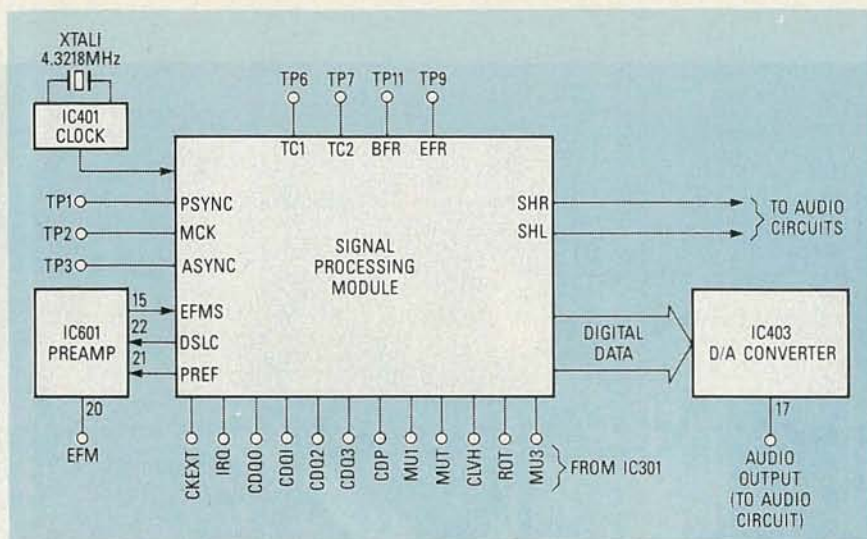

FIG. 32—A FAULTY signal-processing module can cause a variety of audio and motor-control problems.
**7. Signal processing circuit problems.** Figure 32 is the troubleshooting diagram. A failure in signal processing can cause a variety of failure symptoms in both audio and disc-motor control circuits. Likewise, a failure in system control can appear as a failure in signal processing. From a practical standpoint, there is no sure-fire way to tell if the problem is in signal-processing, system-control, disc-motor, or audio signals. However, there are checks that will help pin down the problem.
Next, if there are excessive audio drop-outs, and the front-panel indications are not normal, the problem is likely in signal processing. Check all of the waveforms to and from the signal processing circuits shown in the service literature. Pay particular attention to the following (using Fig. 32 as a guide).
Check all signals (ROT, CLVH, etc.) between IC301 and the signal-processing module as shown in Fig. 32. It is not practical to analyze the waveforms of those signals. However, if you can view a data stream on each line with a scope, it is reasonable to assume that the signal is correct. If one or more of those signals is missing, suspect IC301, the signal-processing module, or both. Remember that a signal from IC301 can depend on a signal from the signal-processing module, and vice versa. So you may have to replace both the IC and the module to find the problem. Also remember that IC301 may not produce the required signals unless FOK, TOK, etc., are applied to it.